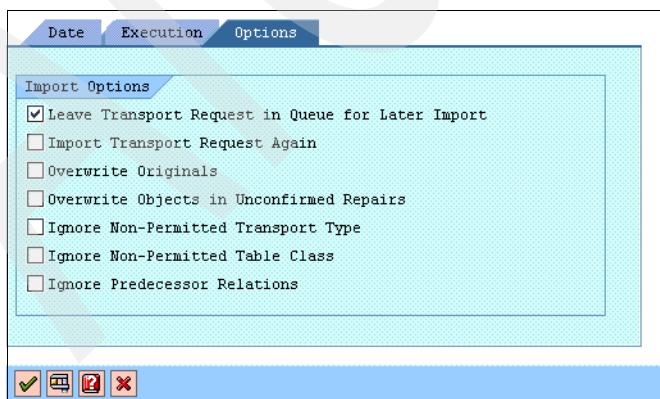

Figure 14-13 Import a change request: Options selection
- ▶ Figure 14-13 on page 206 shows importing a change request with the *Options* selection.
Importing a change request with the *Options* selection as Figure 14-13 shows.